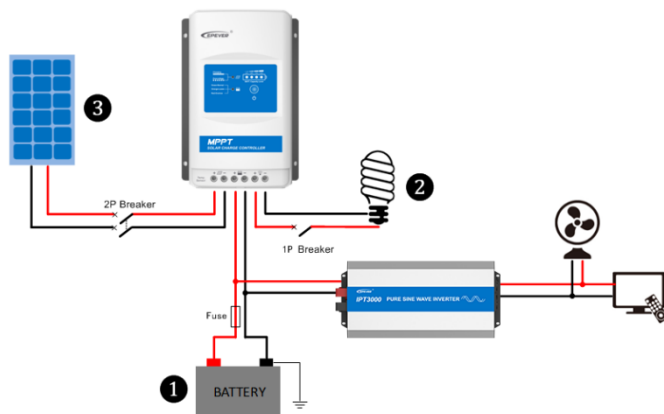

Figure 2-2 Schematic of wiring diagram
**Step 2:** Connect the system in the order of ① battery → ② load → ③ PV array by Figure 2-2, "Schematic Wiring Diagram" and disconnect the system in the reverse order ③ ② ①.